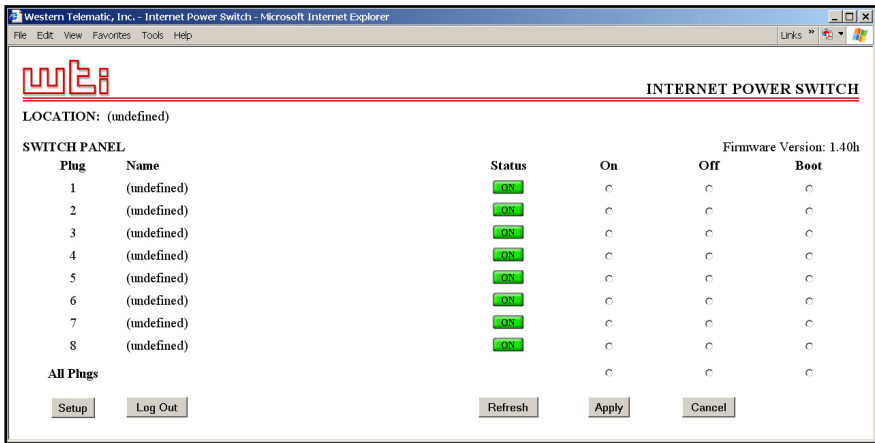

Figure 6.1: Plug Status Menu - Web Browser Interface (IPS-800 Shown)
When you login to the IPS command mode using the Web Browser Interface, the first screen that is displayed is the Plug Status Screen (or "Switch Panel".) The Plug Status Screen (Figure 6.1) lists the current On/Off status of the IPS's Switched Outlets and provides a series of "radio buttons" which are used to control On/Off/Boot switching of the outlets.
2. When the Plug Status Screen (Figure 6.1) appears, note that the screen includes a status field and On/Off/Boot controls for each of the IPS's Switched AC Outlets.